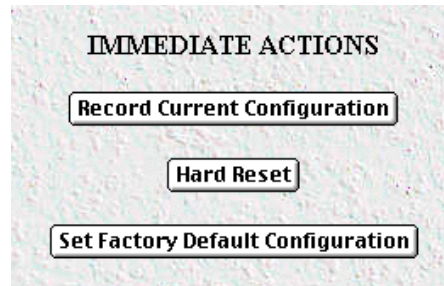

Figure 20. Immediate Actions buttons
- **Record Current Configuration**—clicking on this button (figure 20) causes the current configuration to be stored in FLASH memory. Any changes made to the RAS configuration are stored in non-volatile RAM first. This allows the user to set the box up with a working configuration before committing it to FLASH. Configuration changes become permanent when you select **Record Current Configuration**. You will *lose* all changes *not* stored to FLASH the next time the RAS is re-booted.
- **Hard Reset**—this button (figure 20) causes the RAS to perform a cold restart. When you select **Hard Reset**, the RAS confirms that you want to execute this command. Then, the RAS will disconnect all current sessions, re-initialize the interfaces, and re-load configuration parameters from FLASH.
- **Set Factory Default Configuration**—this button (figure 20) clears out the configuration in FLASH and loads the factory default parameters into FLASH memory. The factory default settings *will not* execute on the RAS until it is re-booted.
Note **Set Factory Default Configuration** (figure 20) will delete any routing information, the RAS's Ethernet IP address, and any other site specific settings made for your particular installation. You will have to re-enter the RAS's Ethernet IP address and netmask using the front panel control port in order to use the HTTP/HTML Management pages.